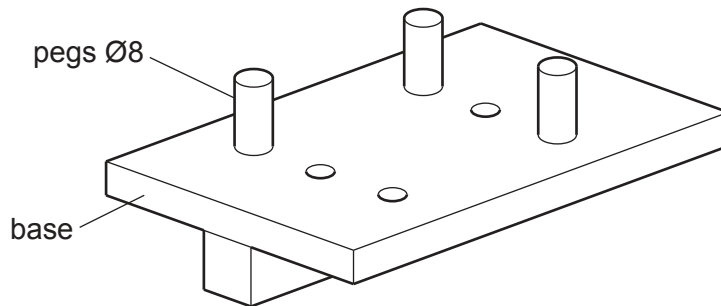

Fig. 2.1
- 2 Fig. 2.1 shows part of a jig used when bending metal.